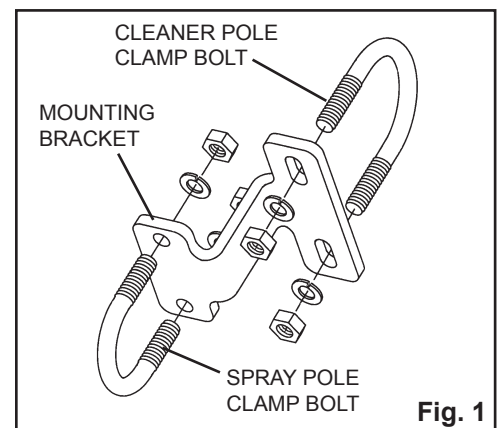

Fig. 1
STEP 1. Disassemble mounting clamp bolts. Remove the nuts and lock washers from each mounting clamp bolt (Fig. 1).